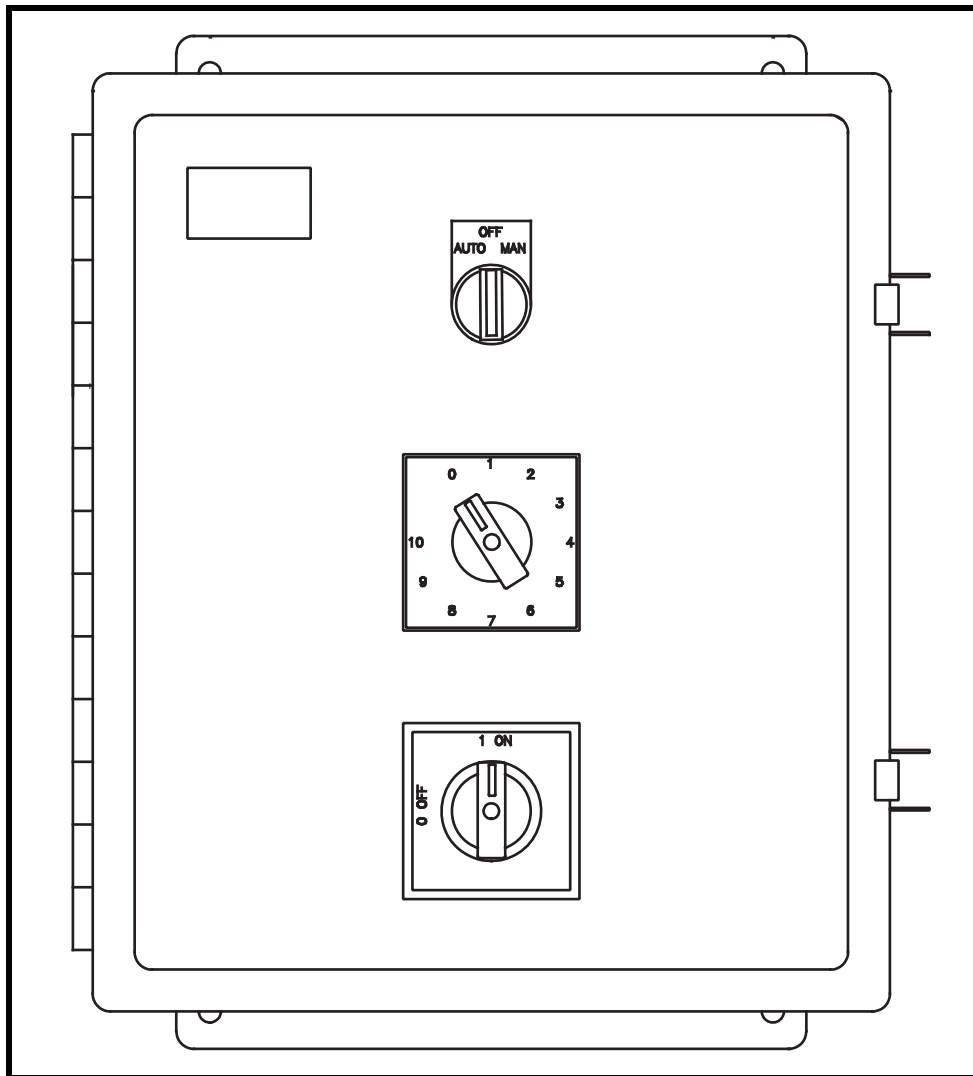

Figure 4. Air Cannon Controller Door
1. To manually fire cannons 1 through 10, turn selector knob on door of controller enclosure to number of cannon you wish to fire. Turn HAND-OFF-AUTO knob to HAND (see Figure 4), hold for 1 second, and release. (Selected cannon will fire and knob will return to OFF automatically.)